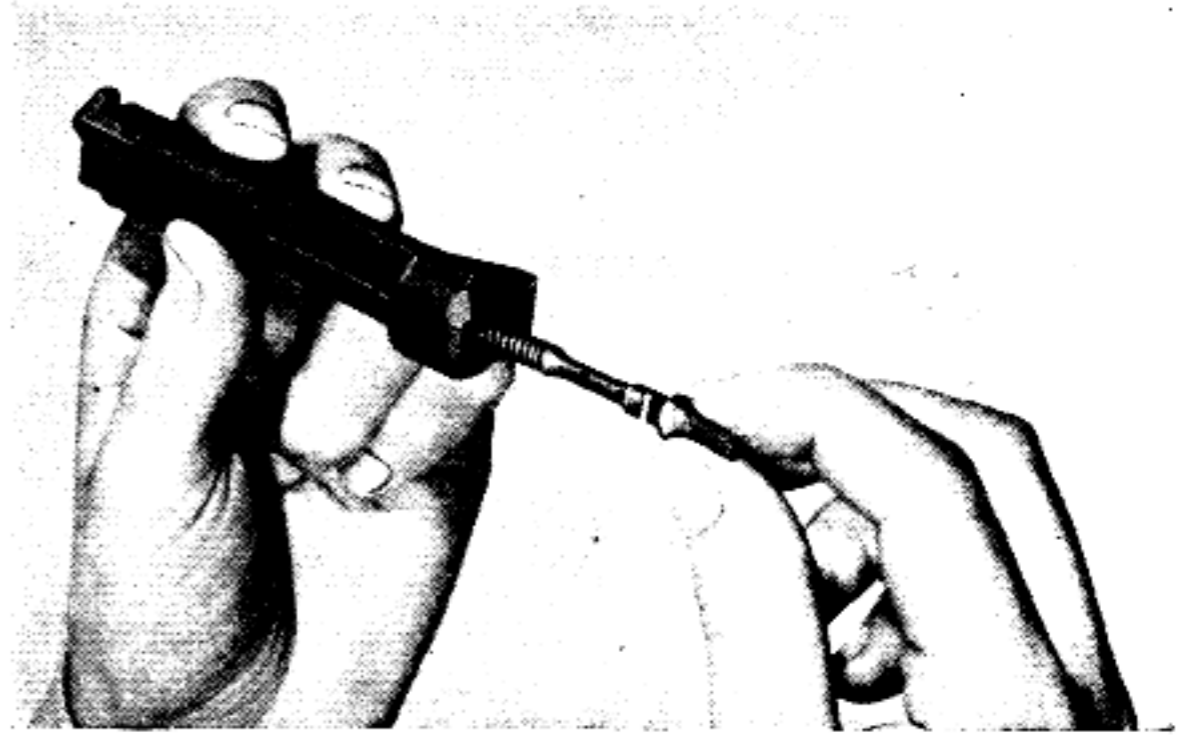

Fig. 21
When the retaining pin has been removed, the firing pin will come out of its housing under action of its spring (fig. 21).
- Replace the firing pin spring and the firing pin in the breech block (fig. 21); compress the spring by working the firing pin and replace the pin.